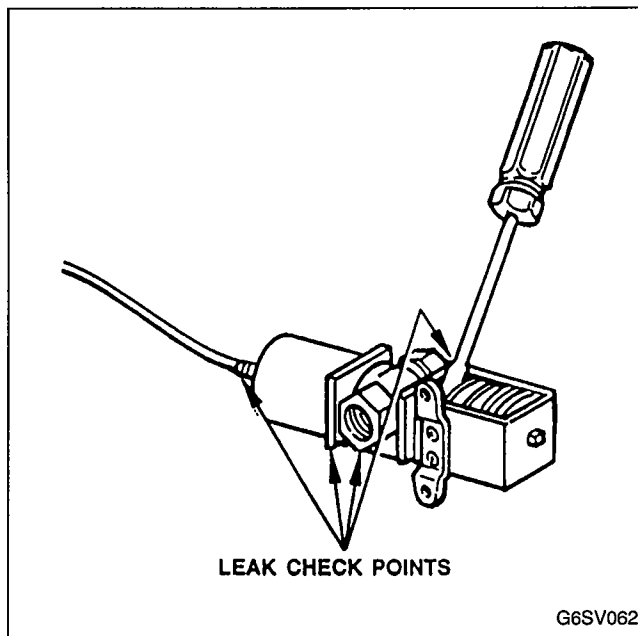

FIGURE 64. WATER REGULATING VALVE LEAK CHECK POINTS
2. Leak check where cap tube meets the bellows housing. See Figure 64.